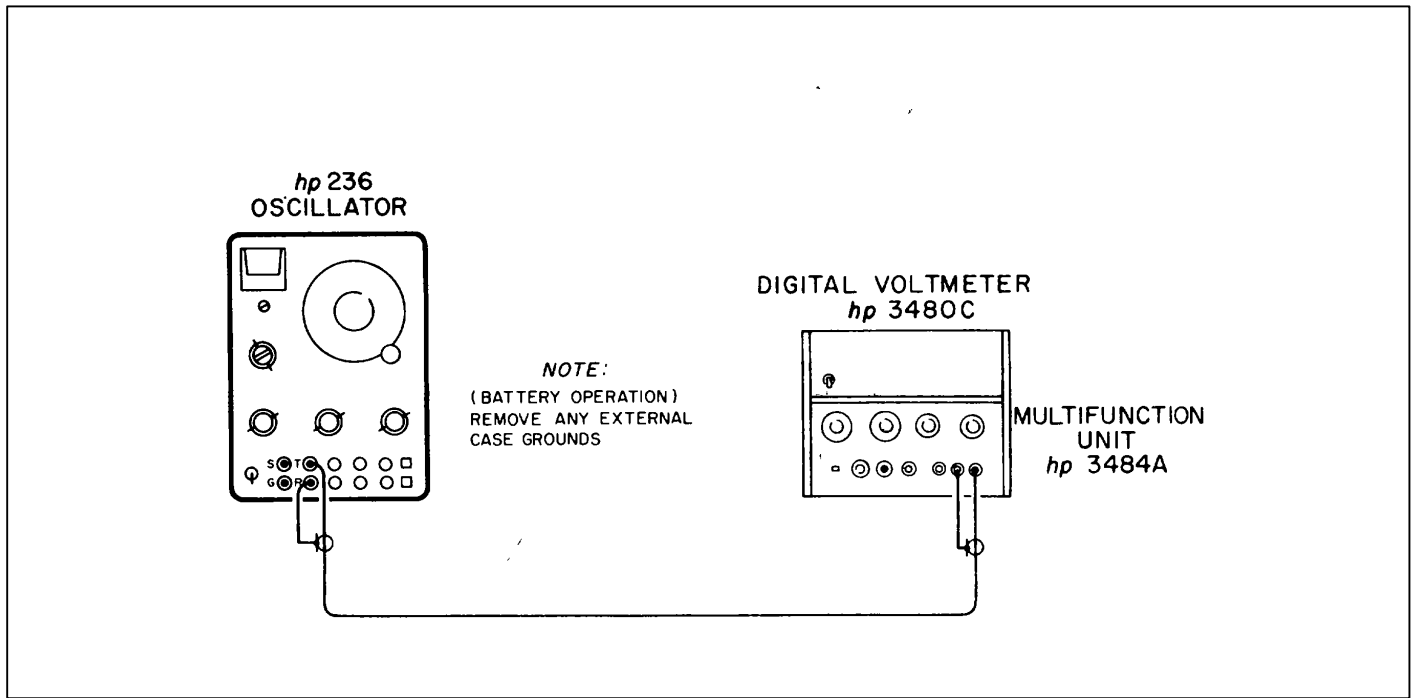

Figure 5-2. Frequency Response Check
should be operated from its internal battery and the power cord removed. No case ground should be provided. Figure 5-2 shows the recommended test setup.
- b. Connect a 600 ohm load across the AC to DC Converter input as shown in Figure 5-2. Set Oscillator FUNCTION switch to 600 position
Figure 5-2 shows the recommended test setup.